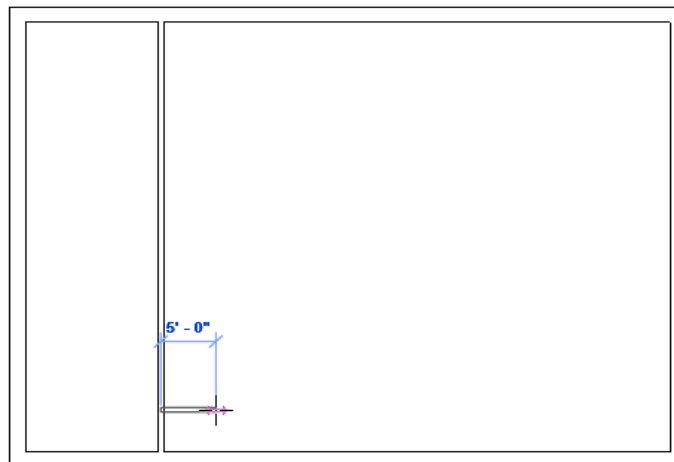

Figure 3-83 Specifying the starting point of third interior wall
3. Move the cursor to the bottom of the wall just drawn and then move it vertically upward. When the temporary dimension appears, enter **5'0" (1524 mm)** and then press ENTER; the starting point of the third interior wall is specified, as shown in Figure 3-83.